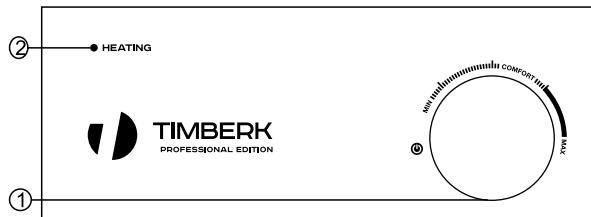

Fig. 8
Control panel (fig. 8)
3. Set the desired temperature of water by the temperature controller handle by rotating the handle; "HEATING" indicator lamp (fig. 8) will flash on. When water reaches the preset temperature "HEATING" indicator lamp will go out. When water temperature drops to a certain level heating will be switched on automatically and restore the required water temperature.